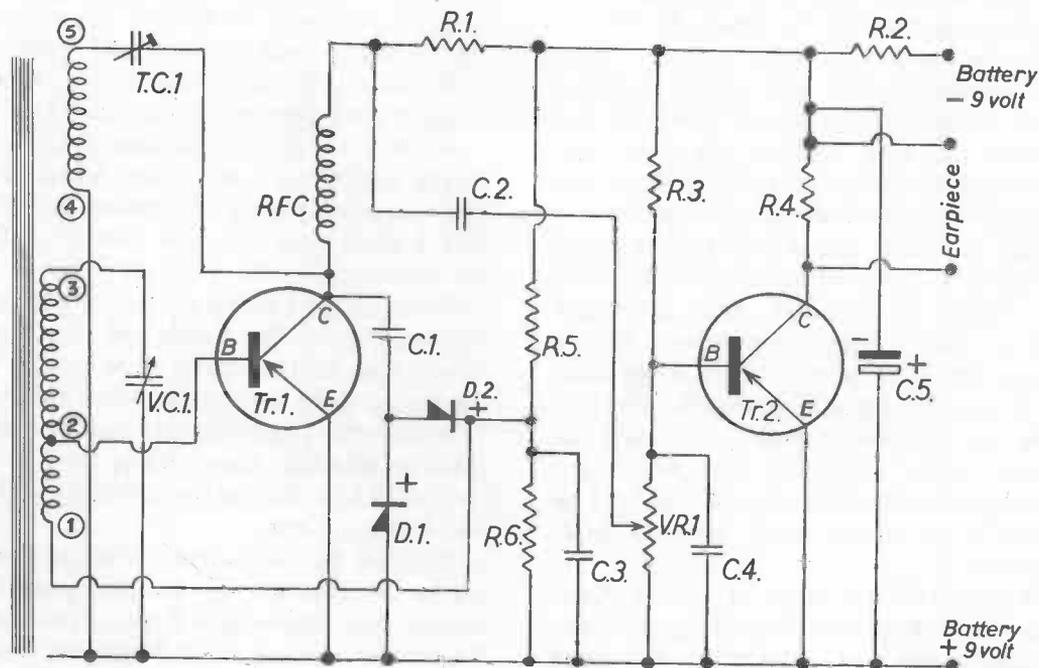

Fig. 6 Theoretical circuit of the two-transistor pocket receiver
The list of parts required for this pocket receiver is given elsewhere in this chapter and how they are combined into a receiver is shown in the theoretical circuit in Fig. 6. You will see that each component has been given a reference
Now you have a ferrite rod with two coils wound on it, one above the other, and four lengths of wire and a tapping-point which must be identified so that you know how to connect to them. This I will describe to you now. I refer you to the two diagrams in Figs. 6 and 7 and in which you will see the coil has been numbered. The beginning of the larger winding is numbered (1) and the tap at ten turns is (2). The end of that larger winding is (3). The beginning of the smaller winding, i.e., the wire nearest the tapping point, is (5) and the end of that smaller winding is (4). It is difficult to be too hard-and-fast about this smaller winding as if you have trouble in obtaining satisfactory feed-back, described later, it may be necessary to reverse the ends of this winding and connect (4) where I have shown (5) and vice versa. That, however, is a matter for experiment.